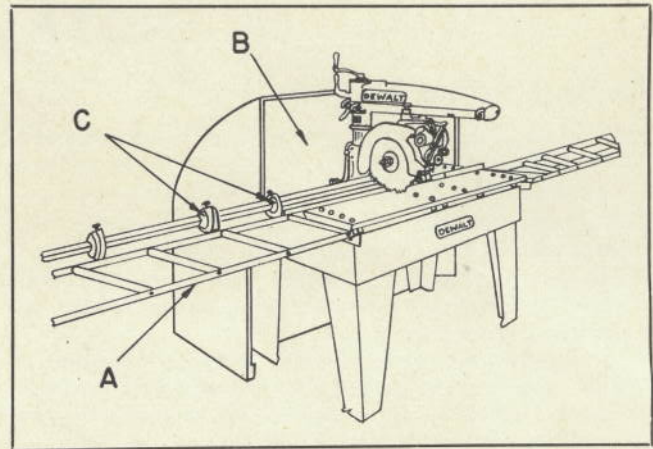

FIGURE 3
Either use DeWalt Dust Catcher, part No. 6503, or construct a dust hood similar to the dust hood (B) shown in figure 3.